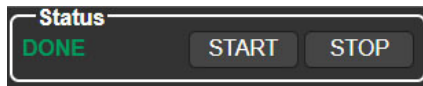

Figure 5.1
**Status Section (see Fig. 5.1).** Displays the current operating mode of the tester. Includes two buttons: